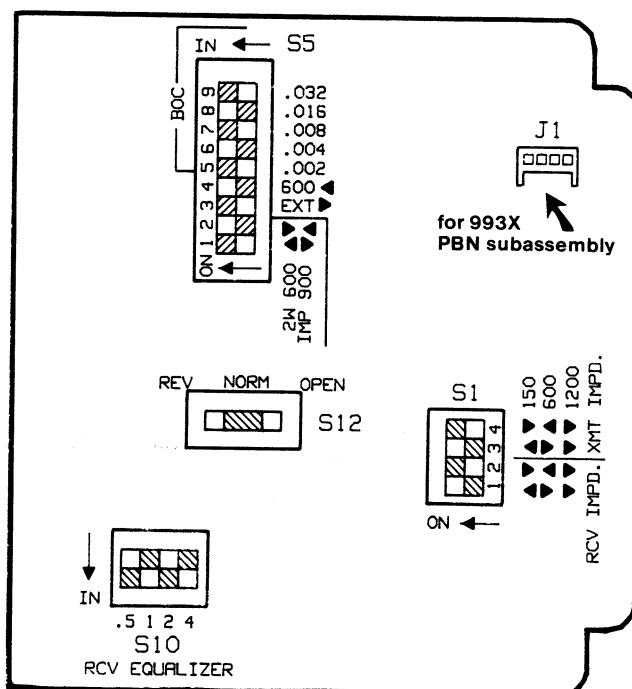

figure 3. 4024E option switch locations
3.07 Optioning the 4024E module consists of selecting the terminating impedance at both 4wire ports and at the 2wire port, conditioning the module either for use with its internal CBN or with a 993X plug-on PBN, selecting the appropriate CBN impedance (if used), and selecting external, bypassed, or reverse-polarity bypassed operation of the A&B leads. Locations of the option switches on the 4024E's printed circuit board are shown in figure 3. Table 3 gives a brief explanation of the function and settings of each option switch, along with a convenient optioning and alignment checklist. The checklist can be filled out (by checking the appropriate box for each switch) either prior to installation to allow for prescription optioning and alignment of the module, or as the module is being optioned and aligned to provide a record for future reference. Detailed instructions for optioning the 4024E are provided in paragraphs 3.08 through 3.13.
**3.14 Installing Optional PBN Subassembly.** In applications where an optional Tellabs 993X Precision Balance Network subassembly is to be used on the 4024E, refer to figure 3 for the appropriate connector location and install the subassembly as follows: